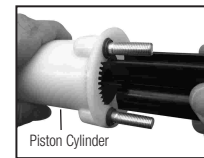

Figure 4
6) Remove check valve cartridge assembly from bottom of piston cylinder utilizing pump handle clip (clip has flat blade incorporated into end). Place flat blade into slot in bottom of cartridge and unscrew (Figure 4 and 5).